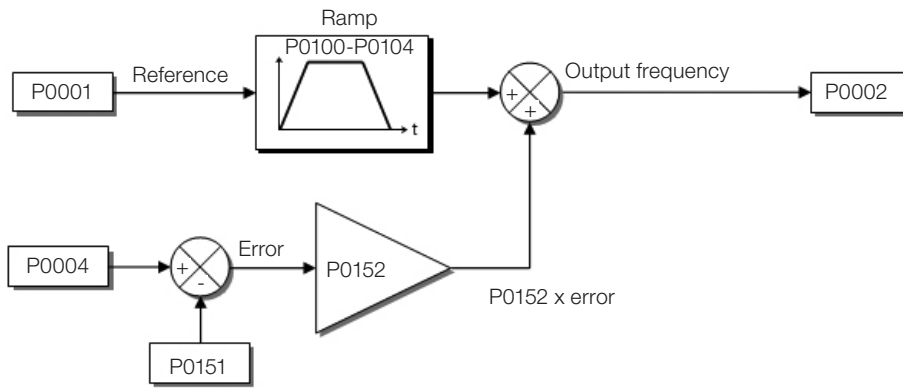
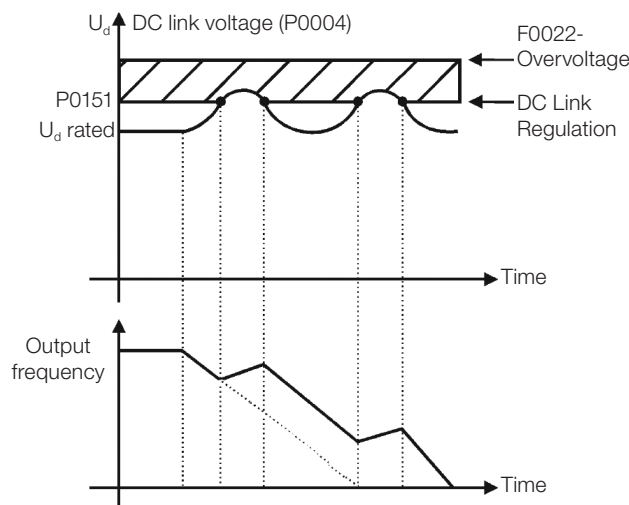

Figure 11.4: Block diagram of DC link voltage limitation – Accelerate Ramp
Figure 11.5: Example graph of the DC link voltage limitation – Accelerate Ramp
- Actuation: the DC link voltage is measured (P0004) and compared to the value set in P0151; the difference between those signals (error) is multiplied by the proportional gain (P0152); the result is then added to the ramp output, as per Figure 11.4 on page 11-6 and Figure 11.5 on page 11-6.